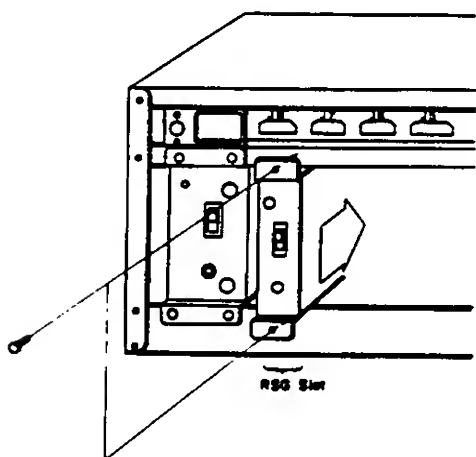

Figure 250-6 Installing RSG-E Unit
B. Install an RSG-E unit into the RSG slot of the required CCU, as shown in Figure 250-6.